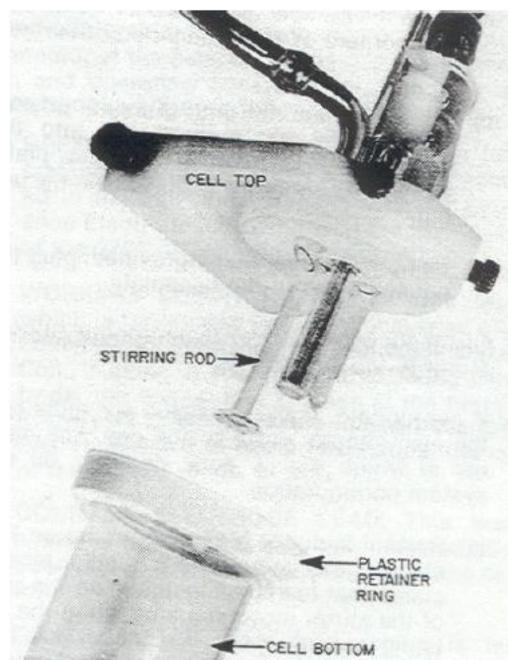

Figure 3: Completed Assembly
- (d) Insert the outgassing tube and the Teflon® sample-port stopper into the cell top as shown in Figure 3.
- (e) Rinse the Reference Electrode and Counter Electrode Bridge Tubes with distilled or deionized water. Then insert the bridge tubes into the appropriate cell top openings (Figure 3) and fill the bridge tubes with appropriate electrolyte. **NOTE:** The bridge tube frits become wetted for the first time in this step. Do not allow them to dry out.